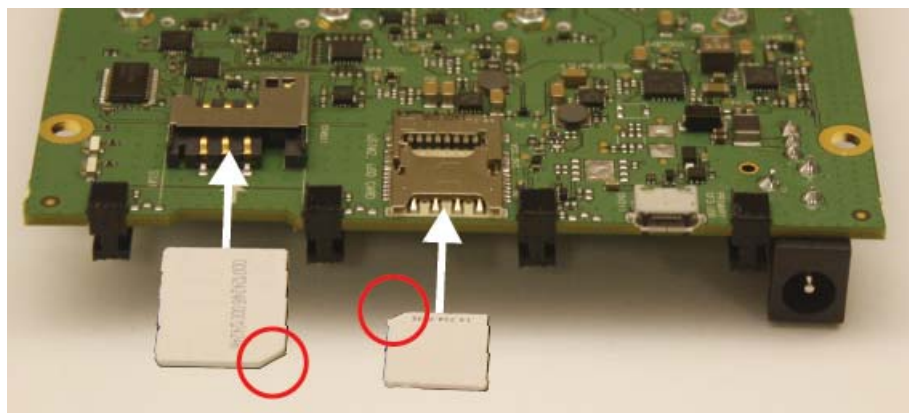

Figure 3-13: SIMs—Inserting
2. Insert the SIM card(s) with contacts face-down into the desired slot(s)—note the locations of the notched corners of the cards in Figure 3-13. (The mini-SIM is inserted with the flat end first, and the micro-SIM is inserted with the notched end first.)